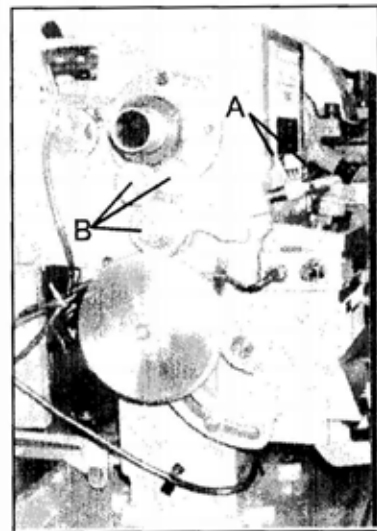
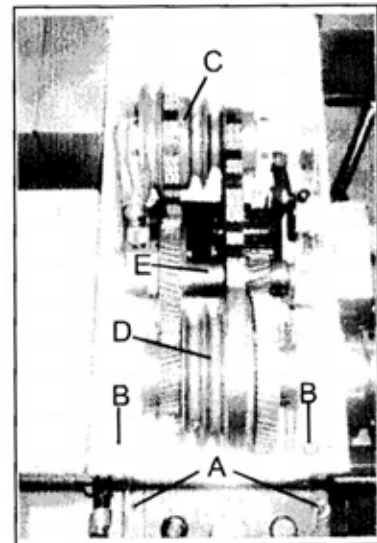

Fig. 3
Fig. 4
1. **Headstock** – Oil must be up to indicator mark in both oil sight glasses (A, Fig. 3). Top off with Shell Turbo T-68 or equivalent. Drain oil completely by removing oil windows and refill (B, Fig. 4) after the first three months of operation. Then, change oil in the headstock annually. Grease three fittings (B, Fig. 3) with #2 tube grease daily. Oil the oil ports (C, Fig. 4) on pulley shaft with 20W machine oil once daily. Remove the set screw on the pulley shaft (D, Fig. 4) and oil with a couple of drops of 20W machine oil once daily.
2. **Center Back Gear Shaft** – Remove the set screw on the shaft (E, Fig. 4) and oil with a couple of drops of 20W machine oil. Oil once weekly.
3. **Quick Change Gearbox** – Remove both oil cap beside the electric control panel (C, Fig. 3). Oil each hole with Shell Turbo T-68 or equivalent daily. Replace oil cap.